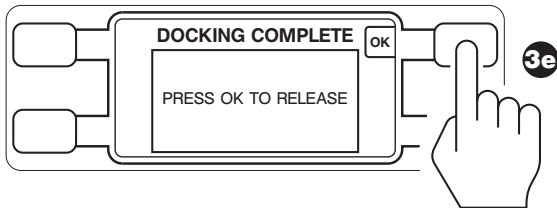

Figure 16 Docking Complete Screen
- e. After the cycle is complete, the DOCKING COMPLETE screen will appear on the control panel display (Figure 16). Push the button next to the OK icon to detach the rover from the docker. Pull the rover away from the docker.